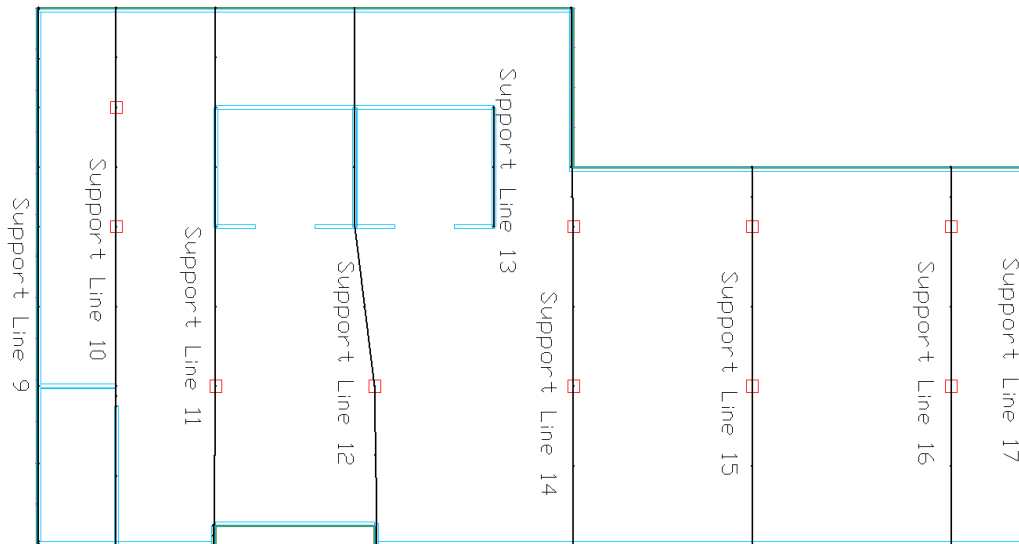

Figure 6.7-3 - Support Lines and Splitters in Y-direction
- Using the approach described above for the X-direction, draw support lines in **Y-direction**. **Figure 6.7-3** shows the layout of the Y-direction support lines once they have been entered in the model.